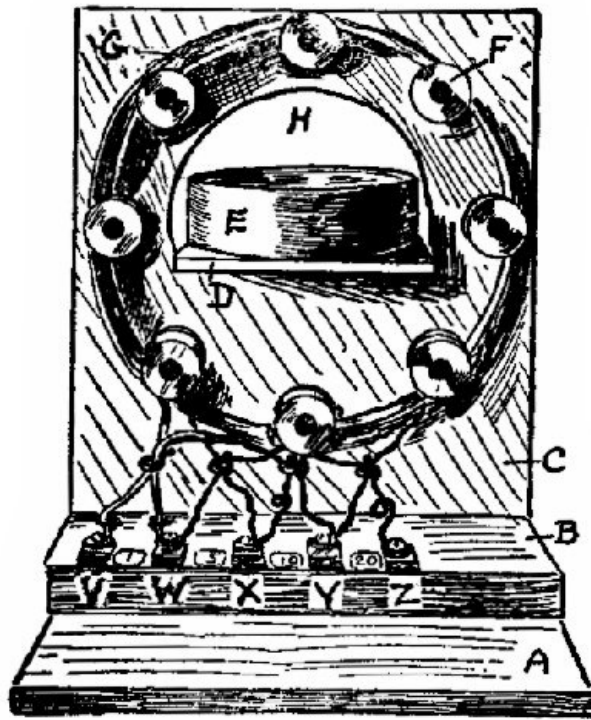

Fig. 91.
**190. Tangent Galvanometer.** Fig. 91. *The base* consists of 2 parts, *A* and *B*. It is not necessary to use two pieces if you have wood that is at least  $\frac{7}{8}$  in. thick. This is given as a suggestion in case you have nothing but thin boards. By screwing *B* to *A* the base is made thick enough to take the screws for binding-posts. The base proper, *A*, is  $8\frac{1}{2} \times 5 \times \frac{1}{2}$  in. If you make this of  $\frac{7}{8}$  in. stuff, you will not need *B*.